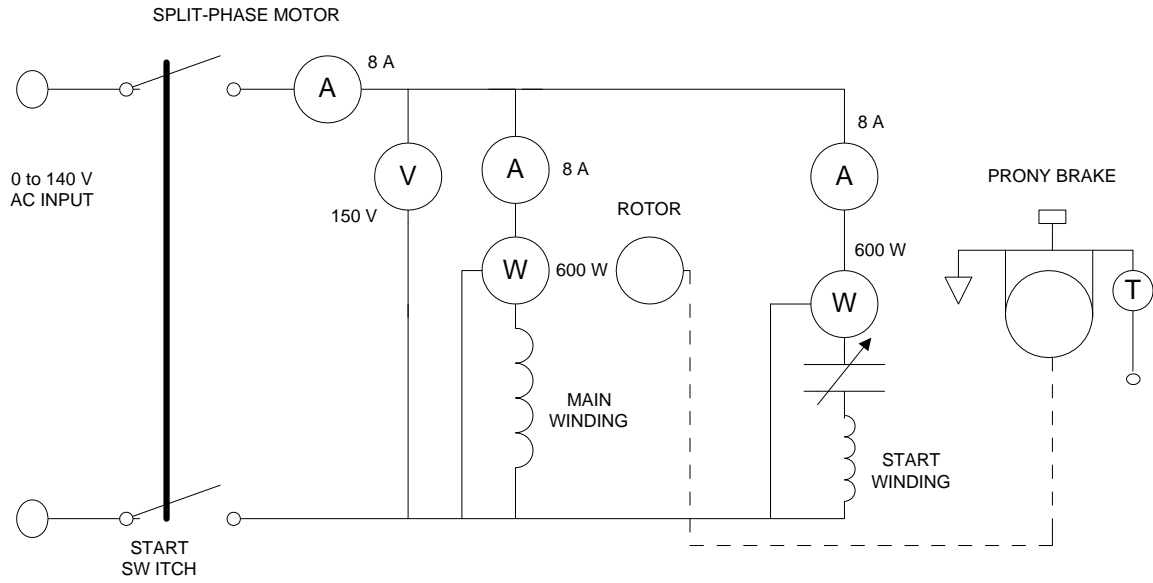

Figure 1. SPLIT-PHASE Motor coupled with prony brake
1. Couple the Split-Phase Motor to the Prony Brake and make the connections shown in figure 1. Adjust the belt of the brake tight against the pulley so that the motor will not rotate when switched on. Adjust the AC supply voltage to 30 Volts.